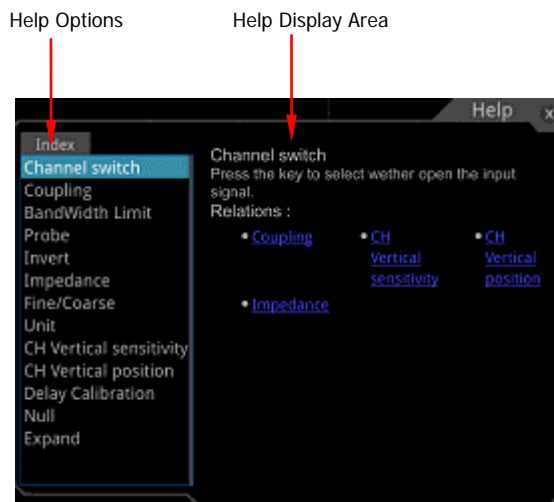

Figure 1-20 Help Information
2. Press **Help** on the front panel or tap the "Help" menu item, and then the help information is displayed on the screen, as shown in Figure 1-20. The help interface mainly consists of two sections. The left section lists "Help Options", and the right section is the "Help Display Area".